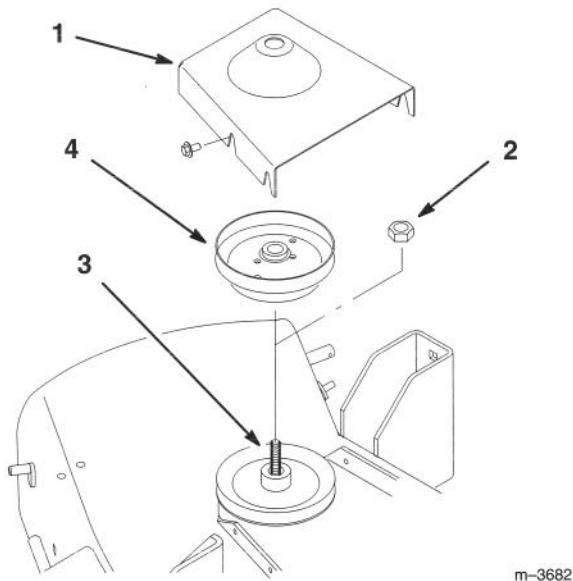

Figure 32
4. Install the belt cover using existing hardware (Fig. 32).